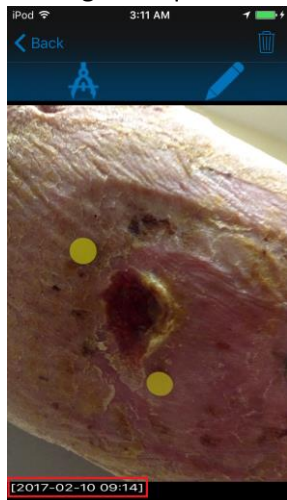

Figure 10: Viewing a Saved Image
2. The date and time of acquisition is always saved with the image in the bottom left corner as depicted in Figure 10.